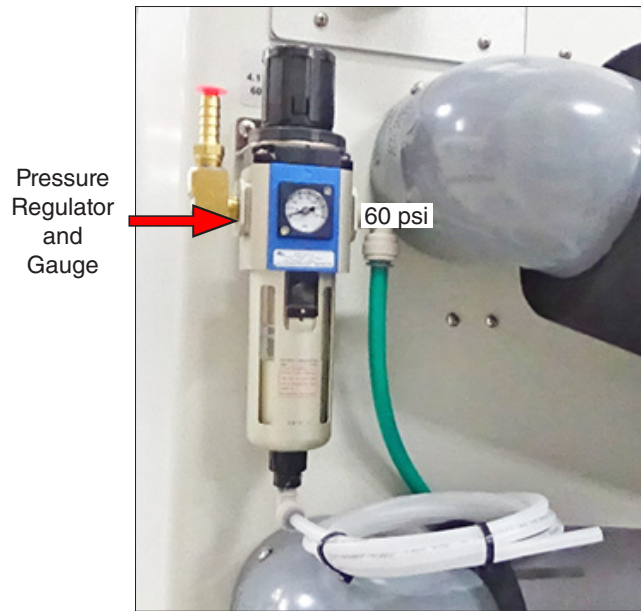

Figure 6.5b: Compressed air pressure regulator.
- The Q-FOG CRH is equipped with a pressure regulator and gauge (Figure 6.5b).